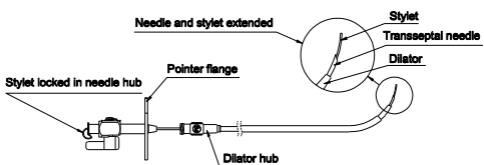

Fig.1
**Note:** due to the stop feature of the dilator, when fully engaged, there will be a gap between the dilator hub and needle pointer flange. (See Fig.1)